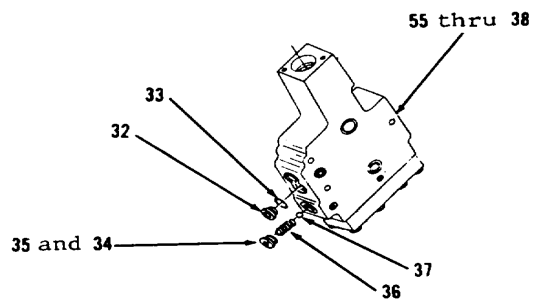
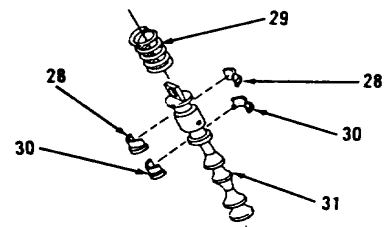

Figure 10-93.
Figure 10-82.
14. Install ball (37), spring (36) and items 35 and 34 as an assembly (Figure 10-93).
15. Install two new preformed packings (33) and plugs (32).
16. Install two retainers (30) and spring (29). Position two retainers (30) together on stem (31, Figure 10-82) and slide spring (29) over two retainers (30).
17. Compress spring (29).
18. Install two retainers (28).
19. Release spring (29).